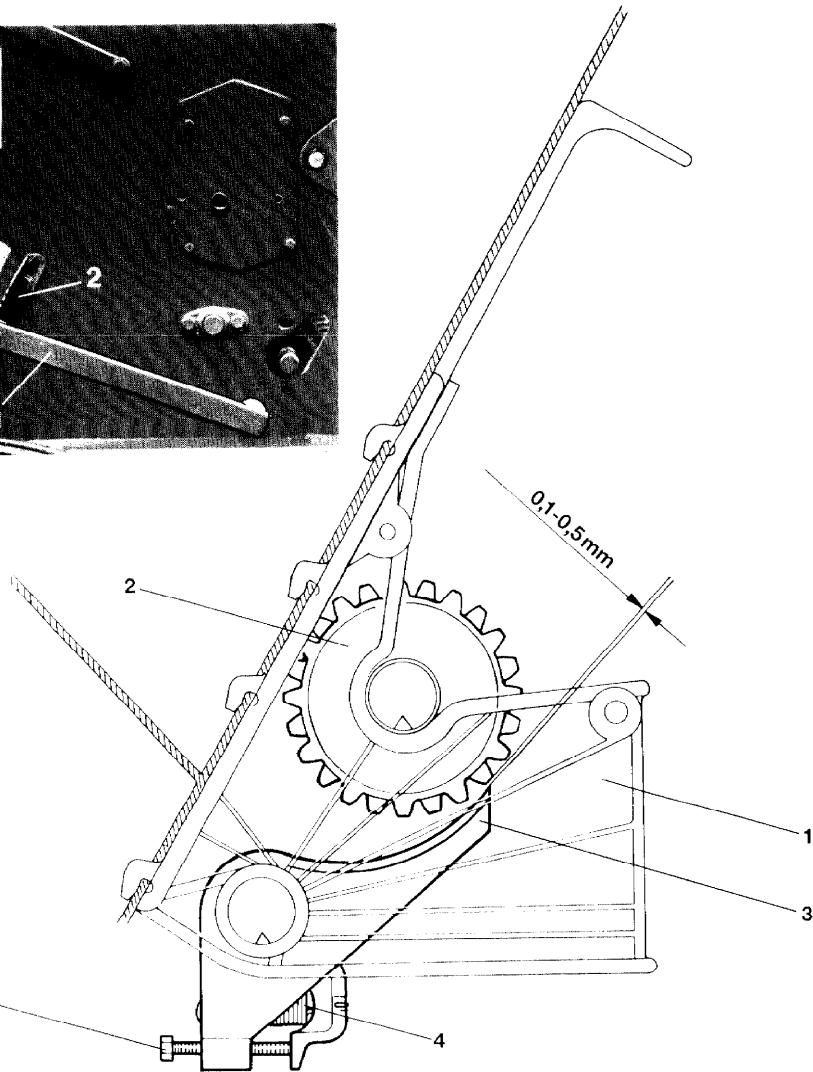

Fig. 2
- Check, whether the prescribed gab of 0.1 mm to 0.5 mm (see Fig. 2) between bottom flap (Fig. 2/3) and metering wheel (fig. 2/2) in every metering wheel housing (Fig. 2/1) is maintained. To do this the metering wheel to be checked should be turned by hand on the metering shaft.
If found necessary reset the prescribed gap at the spring tensioning screw (Fig. 2/5).